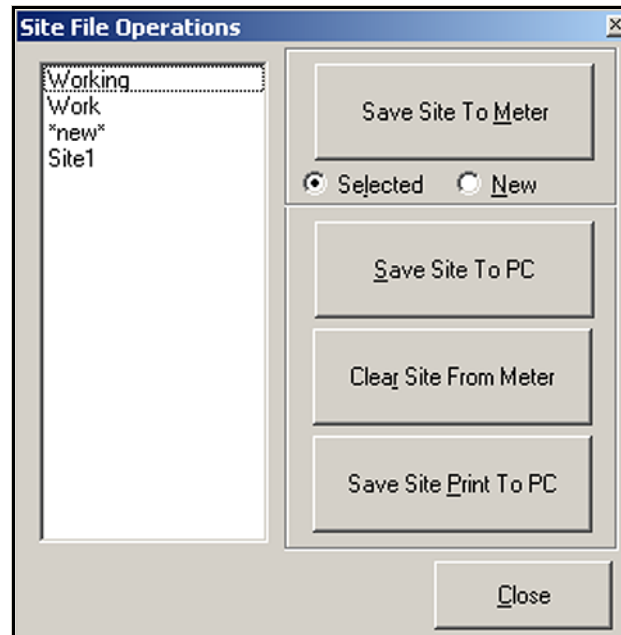

Figure 30: Site File Operations Screen
To access your site files, click on the *Site Files* button in the *Properties* Screen to open the *Site File Operations* screen shown in *Figure 30* below.
1. Highlight the desired site file in the left pane (see *Figure 30 on page 111*).
1. Highlight the site file in the left pane (see *Figure 30 on page 111*).